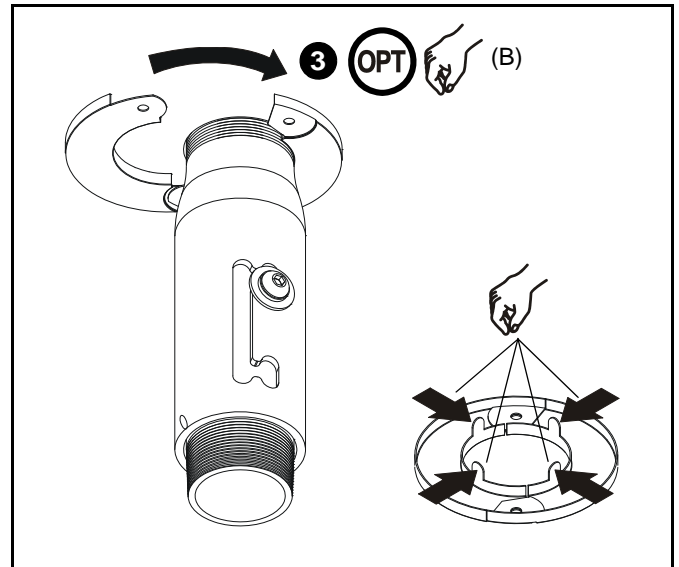

Figure 12
3. **OPTIONAL FOR INSTALLATION ABOVE EXISTING TILE:** Install CMS-640 finishing ring (N) on extension column below ceiling tile (See Figure 12). If necessary, bend four tabs inward to secure ring to column.